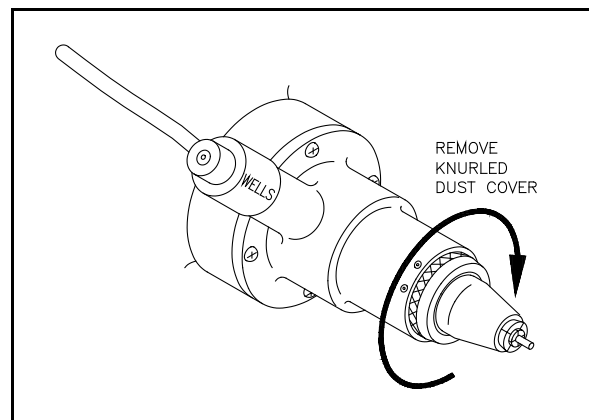

Figure 10.
The non-rotating collet shield covers the collet to provide a steady rest for more comfortable operation of your WELLS Super Quick Chuck. It also helps protect rubber gloves. Removal is easy for cleaning around the collet. Q104 COLLET SHIELD RH (right hand) fits model Q015 WELLS SUPER QUICK CHUCK (right hand with knurled dust cover **ONLY**) . See figure 10. If there is no knurled dust cover, the collet shield cannot be installed.
- 6.10.1 Remove the knurled dust cover by rotating **CLOCKWISE**. See Figure 10. It has **left-hand threads**.